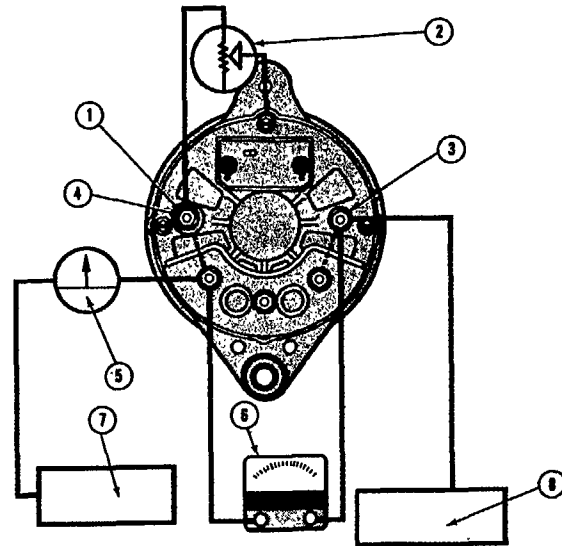

Figure 63
3. Connect the circuit leads as shown in Figure 63.